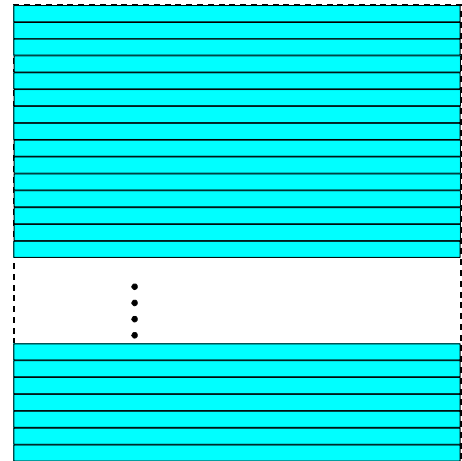

Fig. 83: Decimation Disabled
- 1: the complete frame will be transmitted out of the camera (no sub-sampling is realized); see Figure 83. This is valid for mono and color cameras.